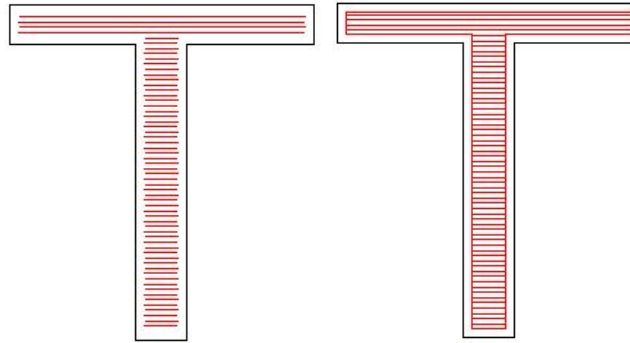

Figure 3-7 Follow edge one
**Follow edge one time:** draws outline one time around the hatch lines after filling (Figure 3-7)